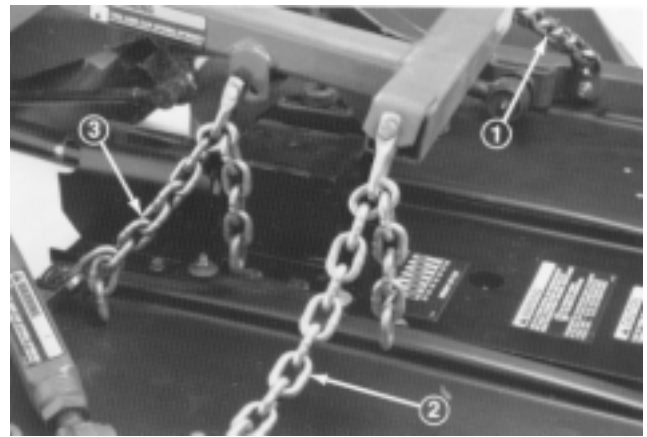

Figure 8
1. Connect the lift chains to the lift arm and cutting unit chain brackets with 6 shackles, shackle pins (3/8 x 1-1/2 in.), and cotter pins (1/8 x 3/4 in.) (Fig. 8). To ensure that the cutting unit lifts properly, secure the chains to the following links when connecting: